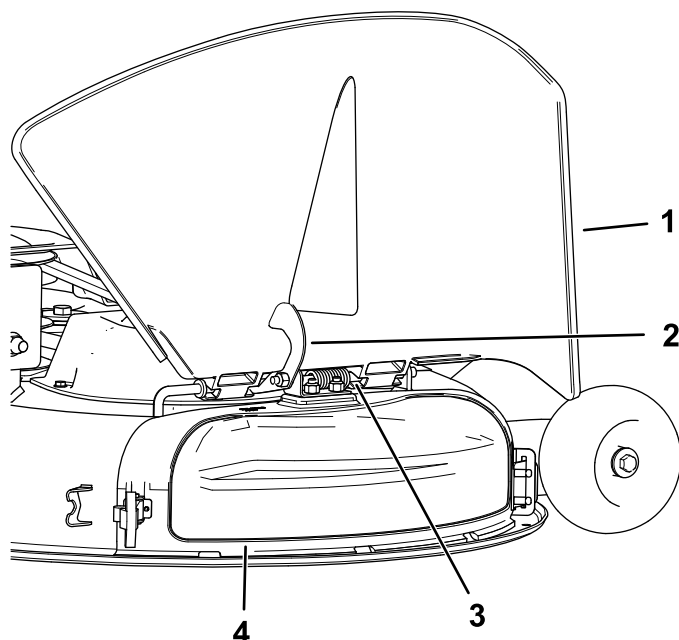

Figure 4
4. On the top of the discharge cover, engage the hook-shaped latch around the pivot rod of the deflector assembly (Figure 4).
4. Release the hook-shaped latch on top of the discharge cover from the pivot rod (Figure 4).